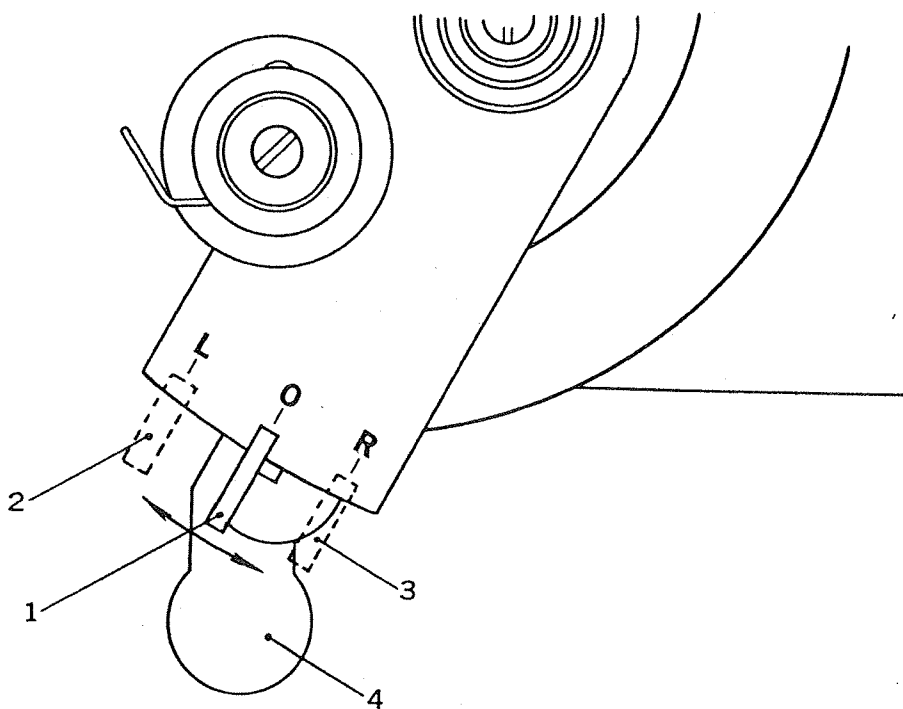
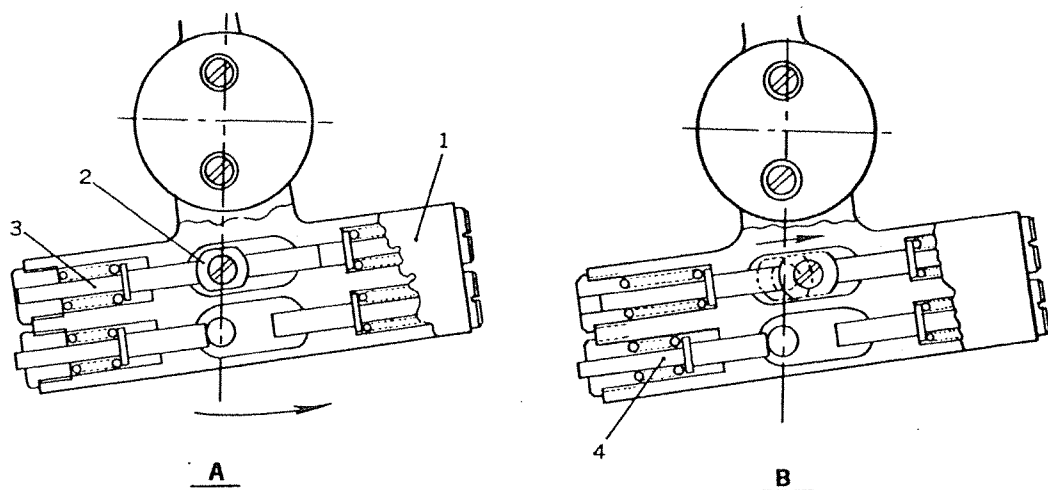

Fig. 21
Fig. 25
Pushing the needle bar change over lever (1)—Fig. 21—to either position “L” or “R” will selectively suspend the reciprocating movement of either one of the two individual needle bars.
When stopping a needle bar by moving the change over lever (1) (Fig. 21) into either the "L" or "R" positions, the mechanism locates needle bar selector block (8)—Fig. 23B—directly above the respective rod end (9). This rod end of the reciprocating needle bar now contacts the selector block causing the rod to move downward inside the needle bar causing cams (10 and 11) to likewise move downward. This allows upper balls (19A) to recede below the diameter of the needle bar while at the same time forcing lower balls (19B) outwardly beyond the diameter of the needle bars. Lower balls (19B) are now forced against the tapered mouth (14) of the needle bar bushing (13) and will stop the downward movement of the needle bar. While needle bar position guide (15) contacts the bottom of the upper end of the needle bar rock frame, thereby locking the needle bar tightly into place. At the same time the retracted upper balls (19A) do no longer lock the needle bar against the underside of the needle bar connecting stud (6) and so allow the latter to glide along the needle bar.
When the needle bar change over lever (1)—Fig. 21—is set to either “L” or “R” position, the rod end (9) of the selected needle bar, when same is in its highest position, will contact the underside of selector block (8) causing said needle bar to become disengaged from its driving mechanism.
Shifting the needle bar change over lever—Fig. 21—to “R” will cause the needle bar change over frame to move in direction of the arrow (Fig. 25).
When disengaging the needle bar stop pushing the lever release (4)—Fig. 21—, the needle bar change over frame and the needle bar change over frame connection return to their first position. Thereby, the slide block for needle stop separates from the needle bar stopping stud and returns to their first position.